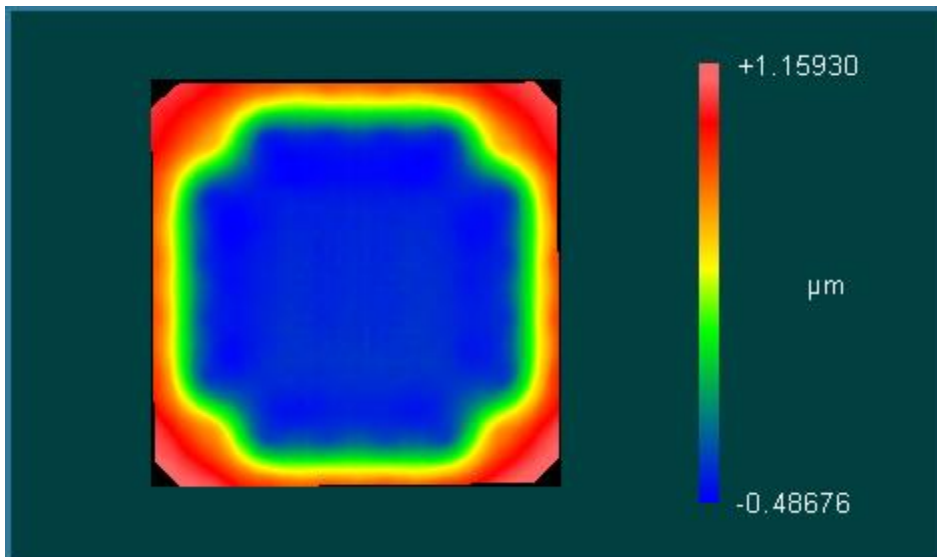

Figure 13: Example of a DM at half actuator stroke (50% bias)
9) The DM is now flat and pistoned to 50% of the actuator stroke, as shown in Figure 13.